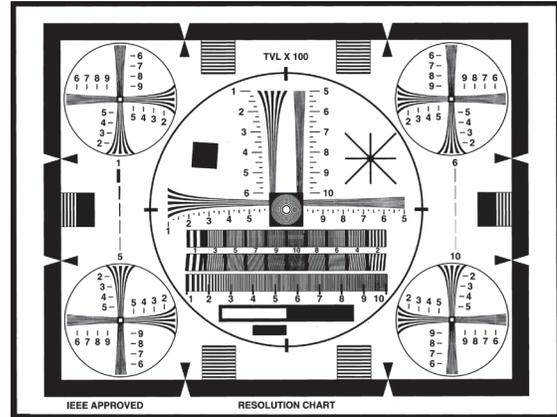

Figure 3: IEEE Approved Target for Measuring TV Lines (TVLs)
determining horizontal (H) and vertical (V) TVL. Included in Equation 1 is a normalization factor necessary to account for a sensor's 4:3 aspect ratio. Figure 3 shows an IEEE approved testing target for measuring TVLs of a system.